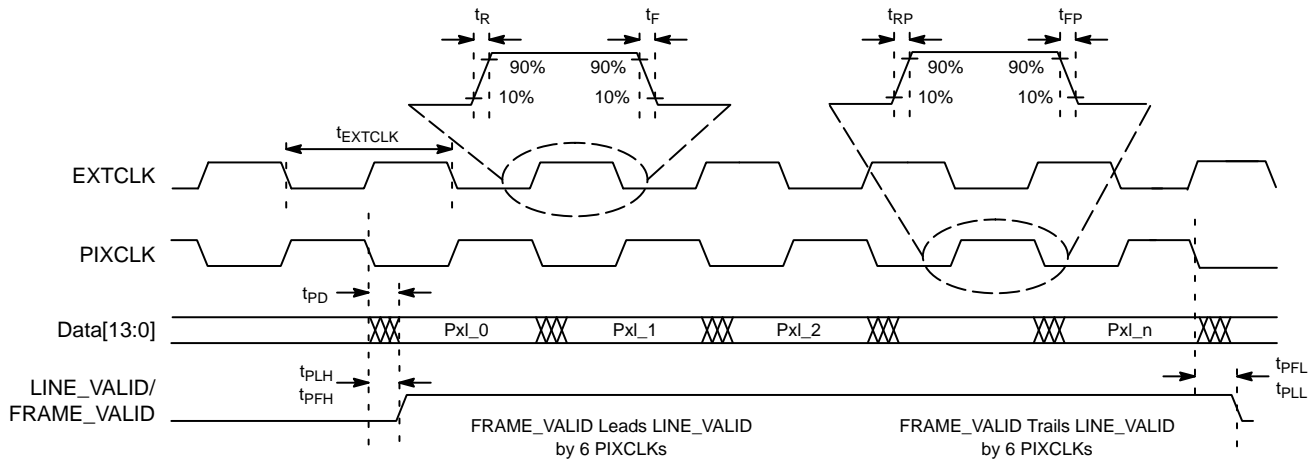

Figure 9. I/O Timing Diagram
See Figure 9 below and Table 8 for I/O timing (AC) characteristics.